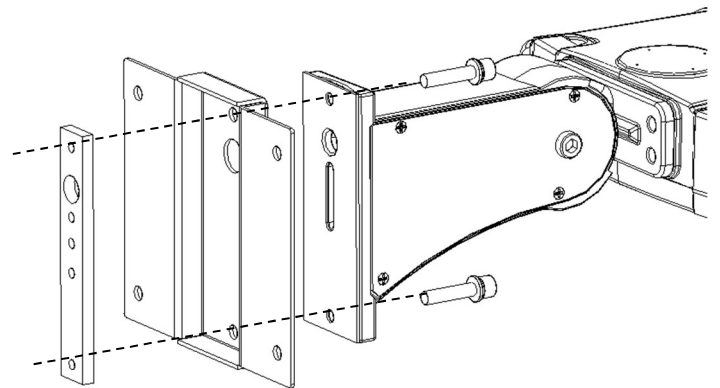

Figure 2
2. Thread (2x) 30mm M8 hex socket screws through all components as shown in the graphics below. (Figure 2)